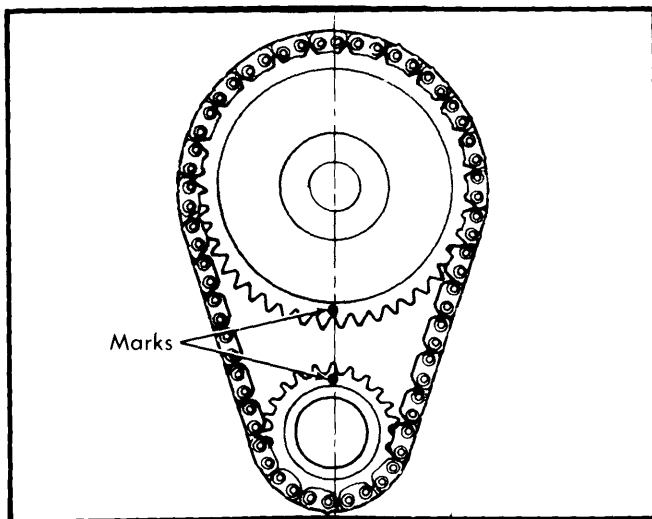

Fig. 9 Timing Chain Sprocket Alignment
**Installation** — To install new crankshaft sprocket, pull into place with installing tool J-21058 (or equivalent). Install camshaft sprocket and timing chain, making sure timing marks on sprockets are aligned. See Fig. 9. Install and tighten sprocket bolts.